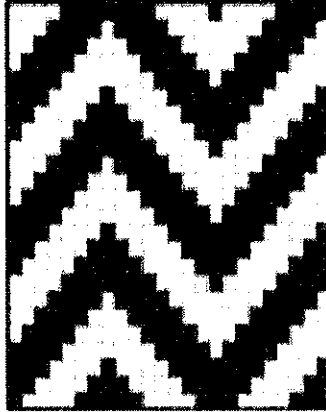

Figure 2
- (Q3.) Refer to the woven design given below as Figure 2 and answer the questions (a) to (c).
- a) Identify the woven structure illustrated in Figure 2. (01 mark)
- c) Draw the drafting plan and the lifting plan for the above structure given in figure 2 (part (a) of the question Q2). (04 marks)
- (Q4.) Briefly explain two (02) advantages of "Extra warp thread figuring" over "Extra weft thread figuring". (04 marks)